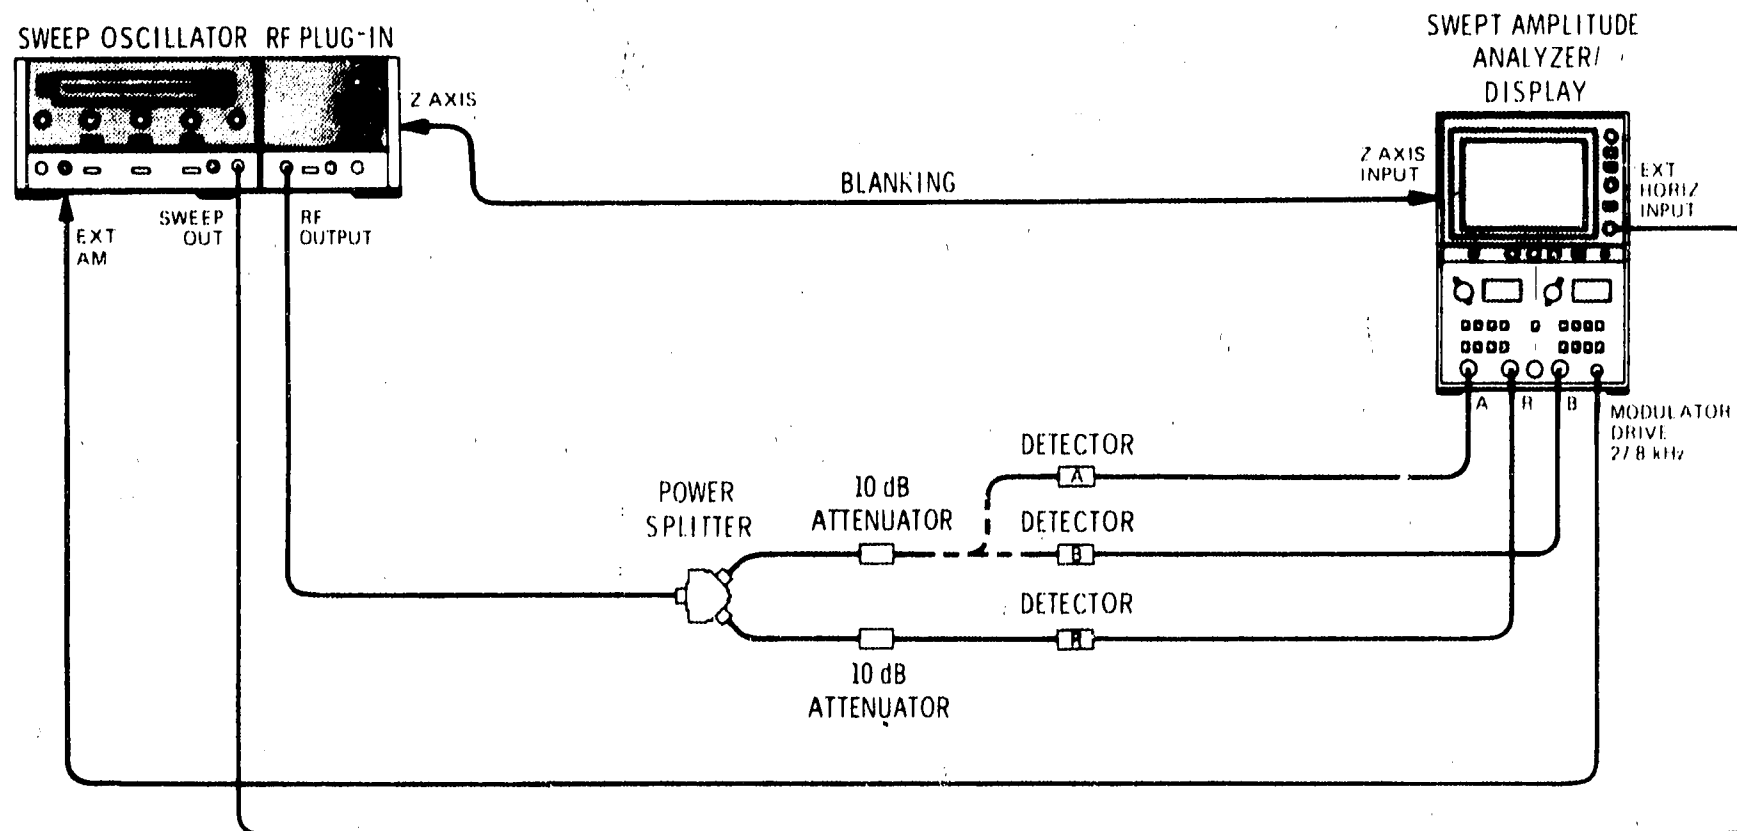

Figure 4-2. Frequency Response Test Setup
- a. Connect equipment as shown in Figure 4-2 with Detector A connected.